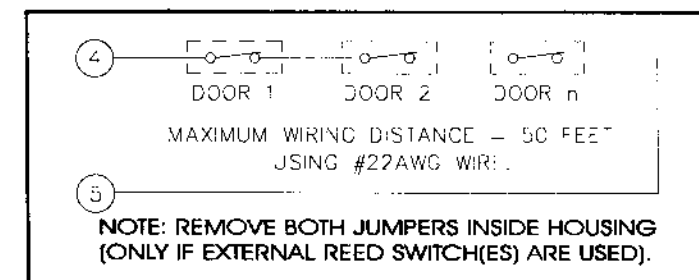

Fig. 3. Multiple door monitoring.
External wiring to the PG21E requires that the unit be mounted on the frame with the magnet on the adjacent door. (The PG21 E may be mounted on a door with the addition of a Model 271 Flexible Cable.) All wiring is made Fig. 3. Wiring Diagram, at its terminal strip. Wiring connections are summarized in the Wiring Diagram shown in Fig. 3.
**Reed Switch (Terminals 4 & 5).** Connect external reed-switch contacts to Terminals 4 and 5 and remove both jumpers. **Note:** If reed switches are wired in series as shown in Fig. 3, several doors may be monitored simultaneously. Using #22AWG wire, maximum wiring distance should not exceed 50 feet.